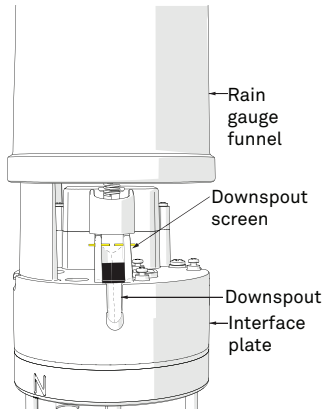

Figure 11 Downspout
- c. Check the downspout (Figure 11) for debris.